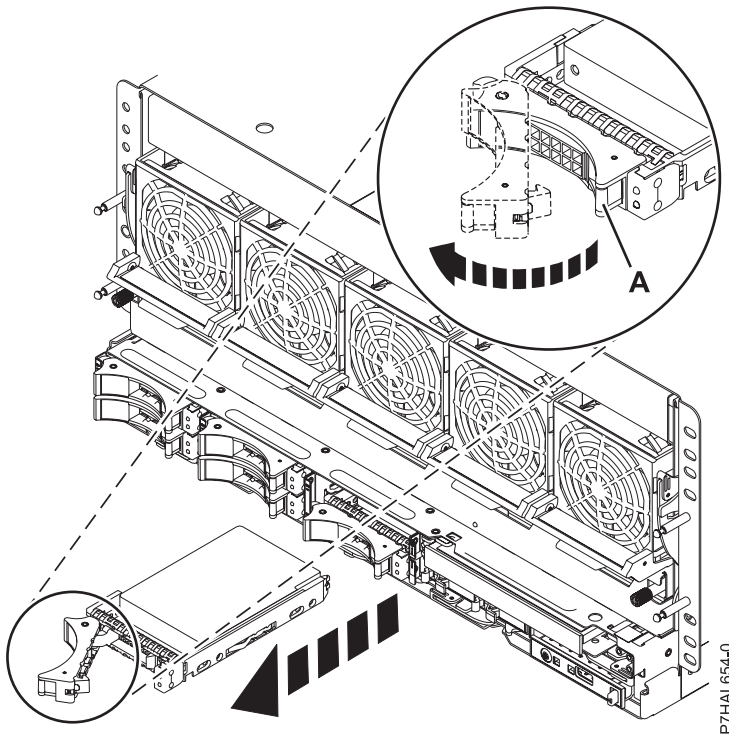

Figure 28. Removing a disk drive from the system
1. On the system, unlock the drive handle by squeezing it and pulling it out toward you, as shown in Figure 28 on page 44.